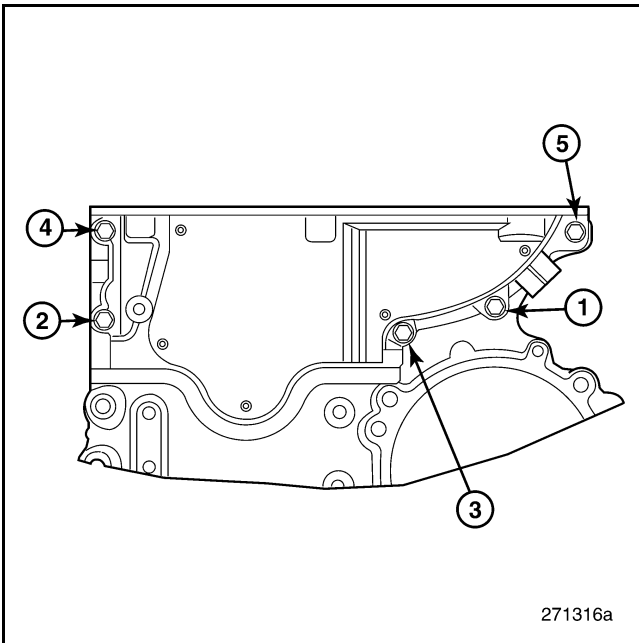

Figure 92 — Timing Gear Cover Fasteners Torque Sequence
5. Remove the screws attaching the timing gear cover to the timing gear plate and cylinder head (Figure 92).